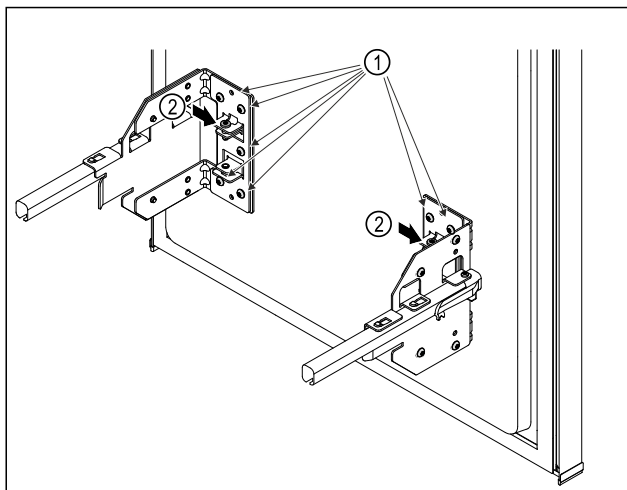

Fig. 8
- ▶ Loosen screws Fig. 8 (1) slightly.
- ▶ Turn the screws Fig. 8 (2) to move the telescopic unit up or down.
- ▶ Tighten the screws Fig. 8 (1) as far as they will go.